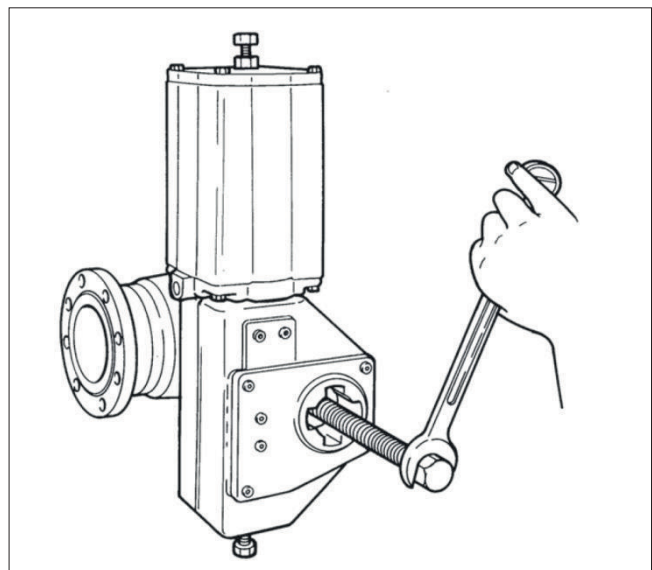

Figure 13. Removing the Actuator with an Extractor
- Lock the nuts (14) with locking compound e.g. Loctite 221. See Fig. 13.